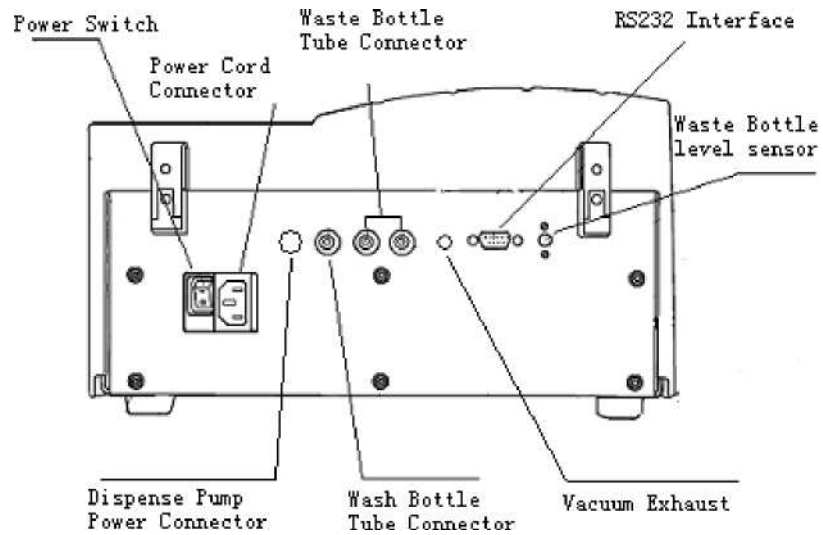

Figure 1.2 Rear View of the 2600C system
4. Connect the end of the wash tube to the Wash Bottle Tube connector at the rear of the instrument (Figure 1.2).
5. Connect the dispense pump power cable to the dispense pump power connector at the rear of the instrument (Figure 1.2).
6. Connect the two tubes on the waste bottle cap to the waste bottle tube connector at the rear of the instrument (Figure 1.2)
7. Connect the sensor connector on the waste bottle cap to the waste bottle level sensor connector at the rear of the instrument (Figure 1.2)